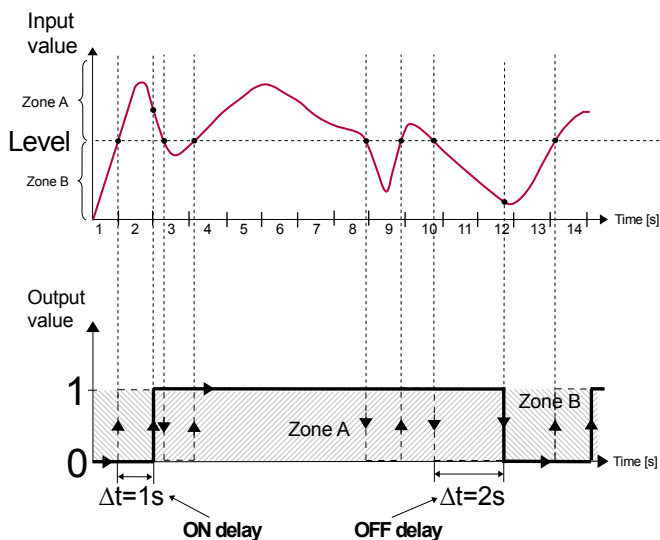

Fig. 7.100. Principle of relay output operation for sample timing settings:
- **ON delay** – it is the time that must pass from the time of a switch request to the actual switch from low state to high state (see Fig. 7.100),
- **OFF delay** - it is the time that must pass from the time of a switch request to the actual switch from high state to low state (see Fig. 7.100),